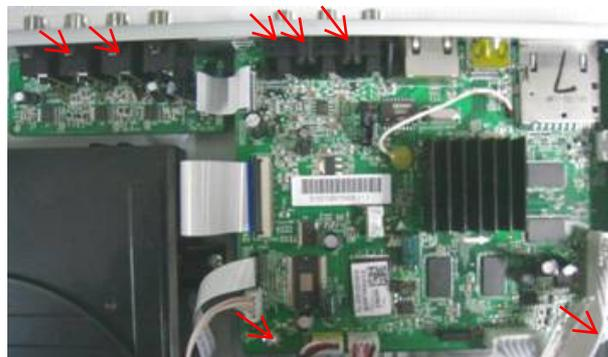

Figure 6
Step7:Remove 2 screws on AV Board to dismantle the AV Board. (Figure 6)
Remove 5 screws on Main Board to dismantle the Main Board.(Figure 6)